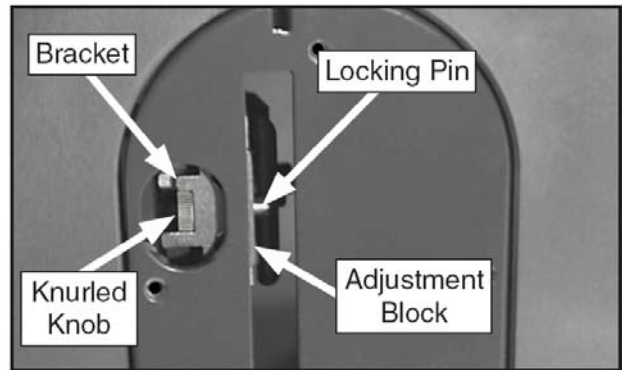

Fig.15: Knurled knob used
A. reinstall the insert, slide the knurled knob out (see **Fig.15**) and rotate it forward so it engages the upper bracket.